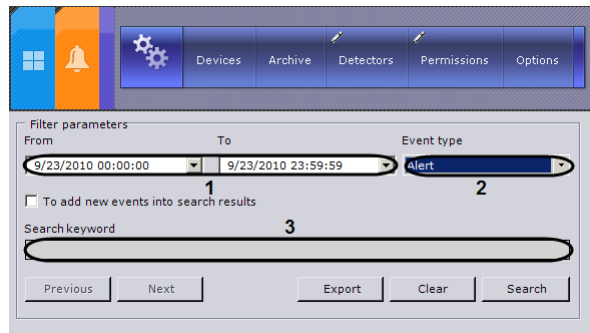

Fig. 7.6—3 Setting event search filters
1. In the **To** and **From** fields (Fig. 7.6—3, 1) you can enter the date and time of the beginning and end of the period during which the events you are searching for were recorded.